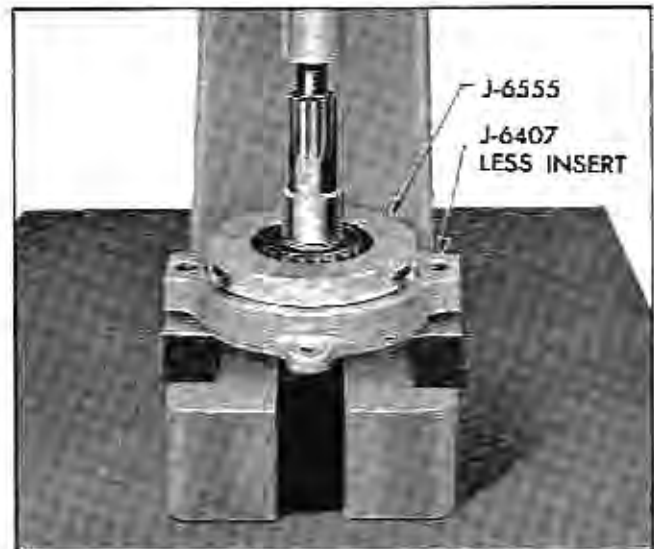

Fig. 4-41 Removing Rear Bearing with J-6555 and Press Plate J-6407 Less Insert
25. To remove pinion rear bearing from pinion stem, place bearing remover J-6555 and press plate holder J-6407, less insert, between bearing and pinion gear (Fig. 4-41).